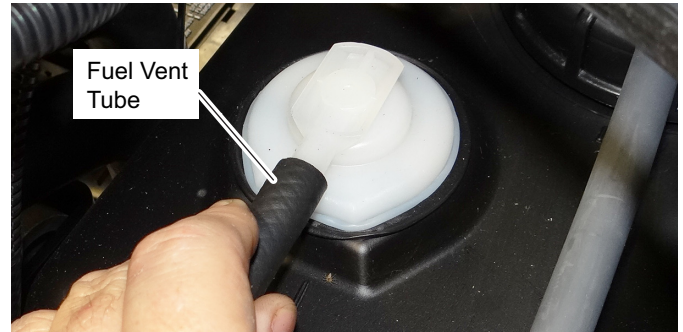

Fig. 5 Fuel Vent
6. Disconnect the vent tube (See Fig. 5).